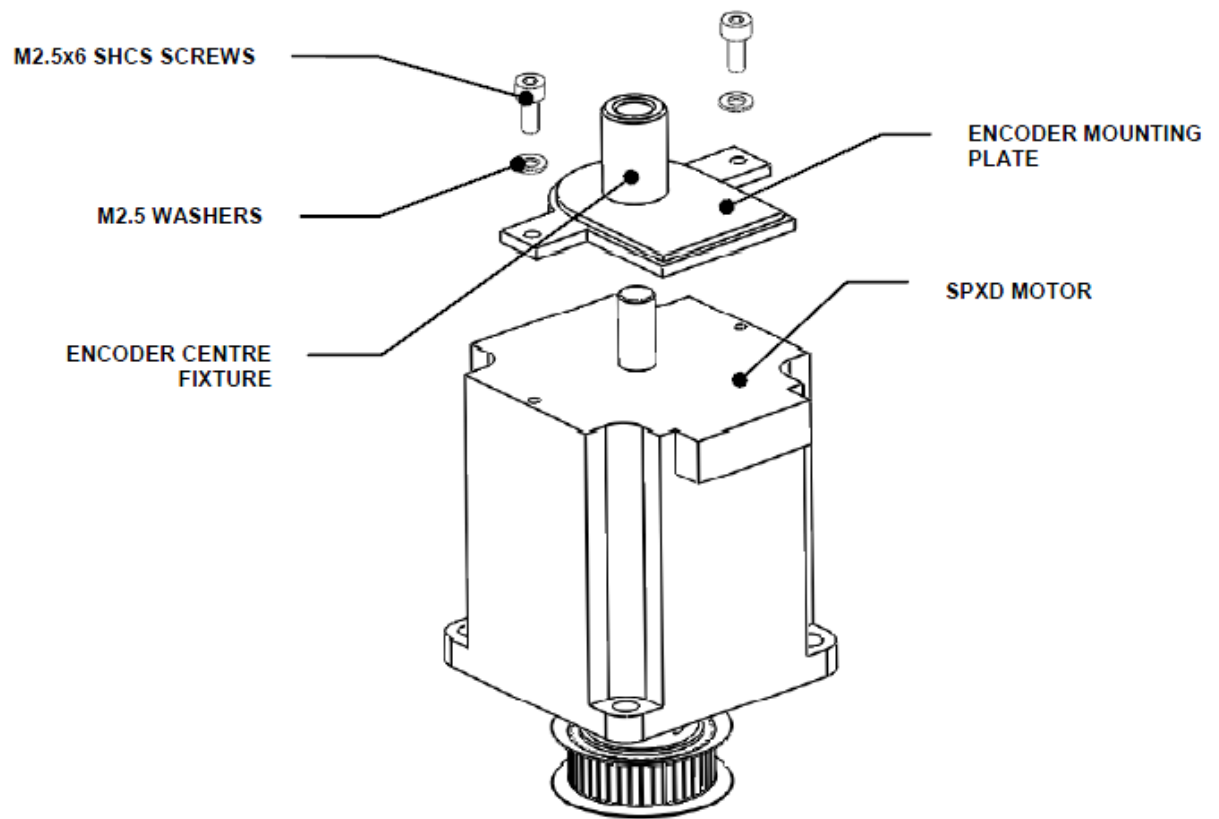

Figure T-5: Attaching the Encoder Mounting Plate
2. Attach the Mounting Plate for the Encoder (55000030), to the motor with the Encoder Centre Fixture 6.35mm (P24FIX007) using two M2.5x6 SHCS Screws and two M2.5 Washers and Loctite 425. Ensure that the mounting plate is centralized around the motor back shaft as shown in Figure T-5.